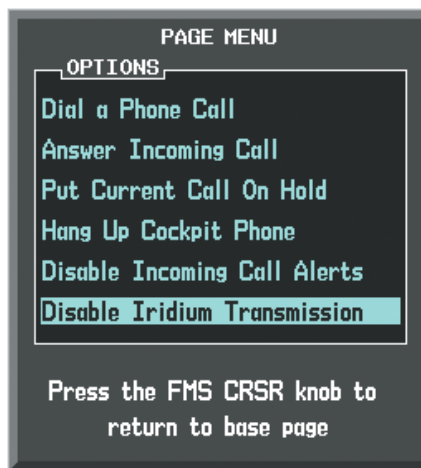

Figure 8-77 Select Disable Iridium Transmission
- 3) Press the **MENU** Key. The Page Menu window is now displayed as seen in Figure 8-77.